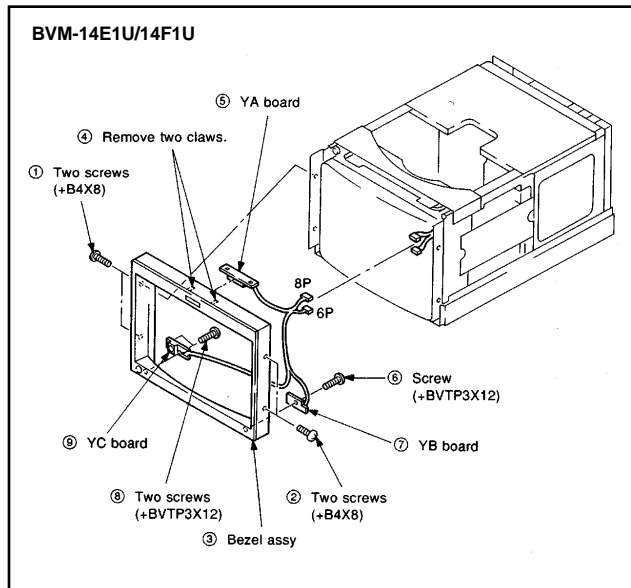

Figure 1
1. Loosen four crews attaching bezel ass'y. (See unit related Figures 1, 2 or 3.)